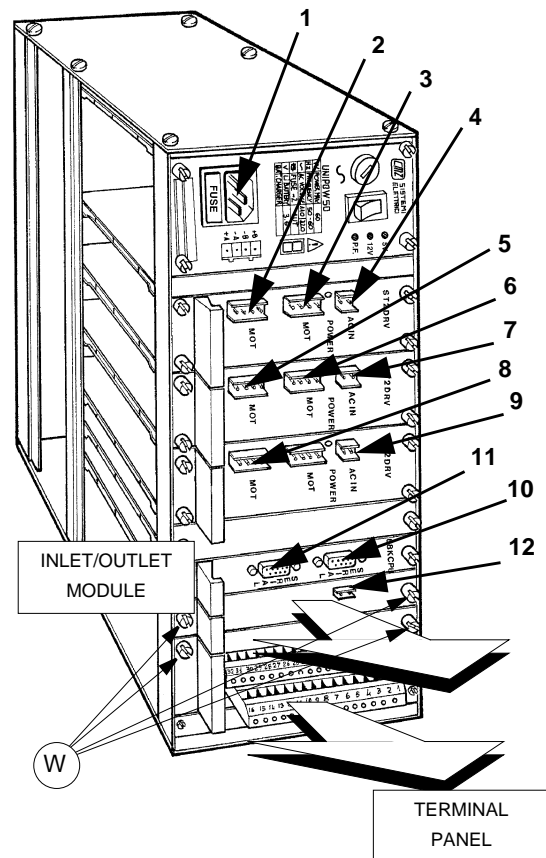

Fig. 44
- 5) loosen the four screws (W) securing the module (it is not necessary to remove them) (fig. 44).